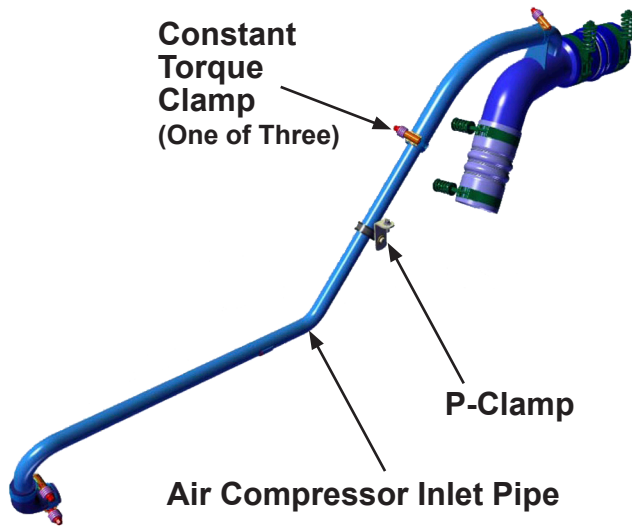

Figure 1
3. Remove and discard the air compressor inlet pipe by first loosening the constant torque clamps (3) and the P-clamp, and set aside for reinstallation (See Figure 1).
5. Reinstall the P-clamp (See Figure 1).